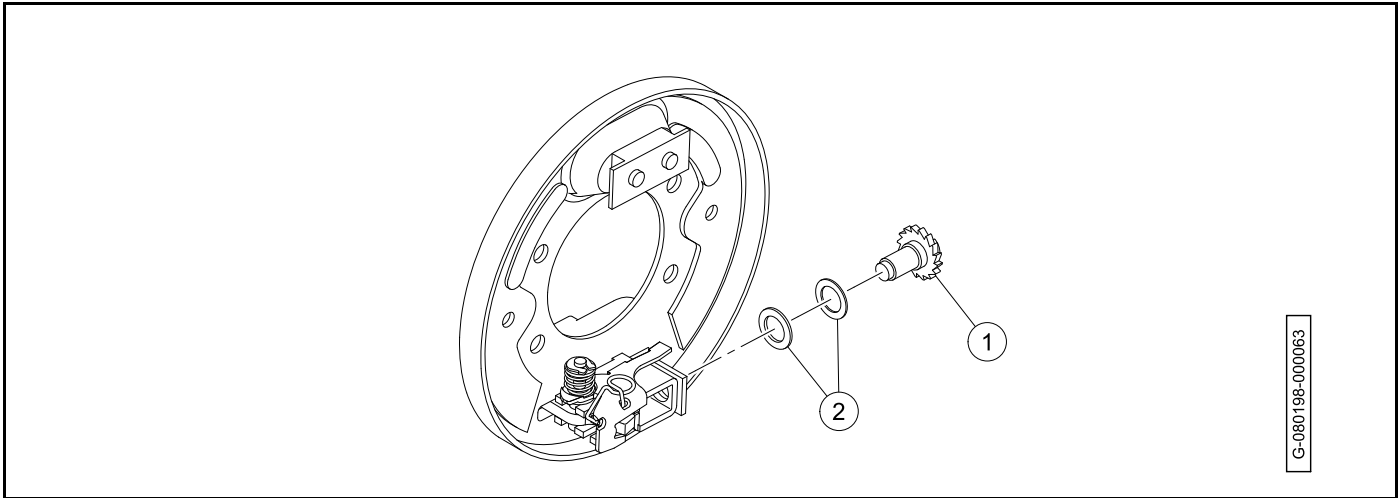

Figure 6-5
16. Remove adjuster wheel (1) with two washers (2 and 3) from the backing plate (**Figure 6-5**).